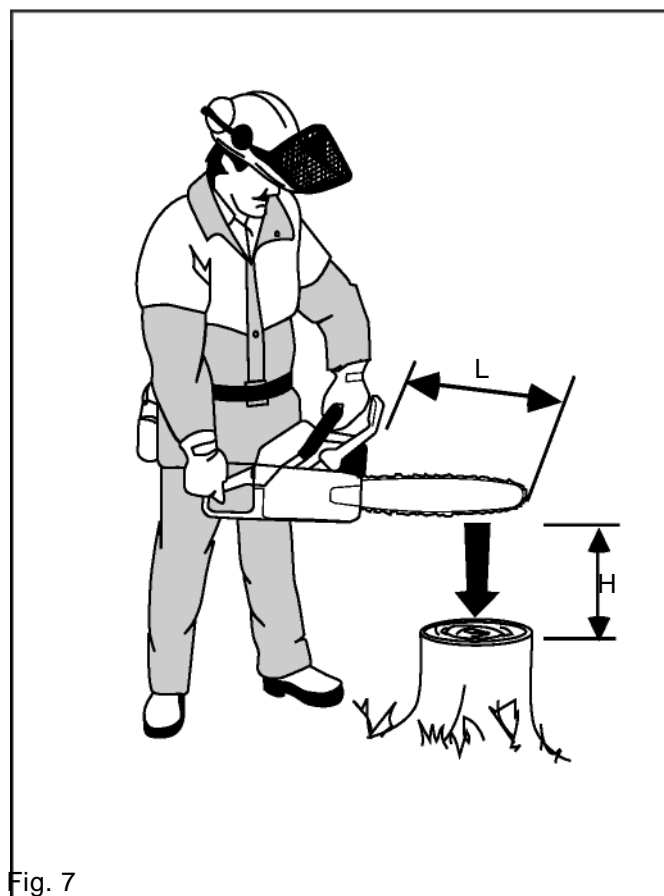

Fig. 7
1. Hold the saw over a stable surface as shown in fig. 7.